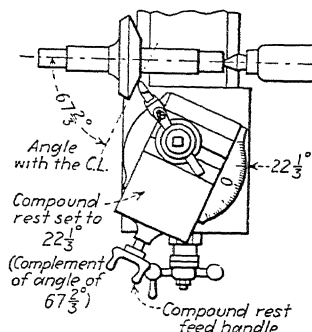

FIG. 163.
(Fig. 163). The swivel plate of the rest is graduated in degrees, and the zero mark, which is usually on the side of the plate, is in line with a mark on the cross slide when the compound rest is at right angles to the center line of the lathe. There are a number of methods, used by various lathe manufacturers, for graduating the compound rest, but it does not make much difference whether the zero is on the front or on either side so long as the zero on the degree graduations coincides with the zero on the slide when the slide is set at right angles to the center line of the lathe. However, it is necessary to remember, when sitting for a given angle, that there may be any one of several *numbers*, due to the several methods of graduating, that may represent the correct setting. Graduating the compound rest is a feature of the lathe that needs standardization.
To illustrate (1): Suppose that a bevel gear is to be turned to an angle of 67 deg. 40 min. with its axis, that is 67 deg. 40 min. ( $67\frac{2}{3}$  deg.) with the center line. The complement of  $67\frac{2}{3}$  deg. is  $22\frac{1}{3}$  deg. Set the compound rest around  $22\frac{1}{3}$  deg. from its normal position (see Fig. 163).